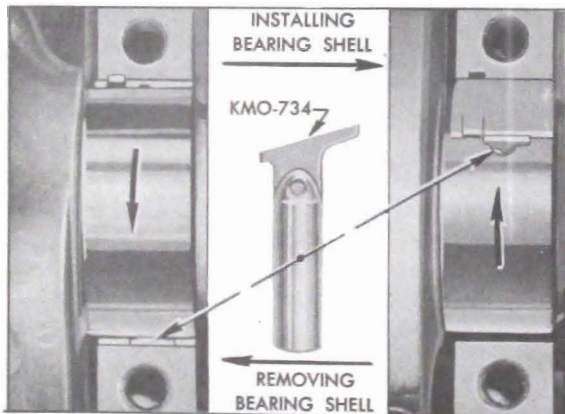

Figure 2-28—Removing and Installing Crankshaft Bearing Upper Shell
2. Remove upper bearing shell by inserting Bearing Shell Remover and Installer KMO-734 in oil hole in crankshaft, then slowly turning crankshaft so that the tool rotates the shell out of place by pushing against the end without the tang. See figure 2-28. CAUTION: When turning crankshaft with rear bearing cap removed